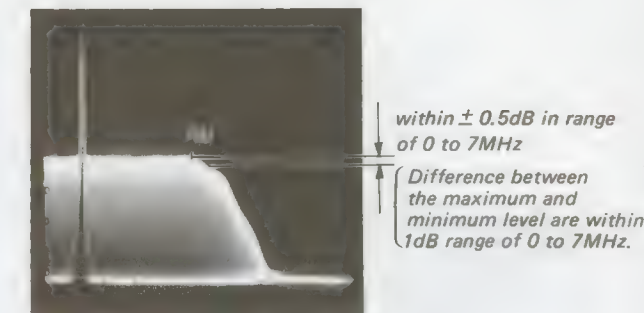

Fig. 5-97.
4. Connect the probe to the R. cathode terminal of the picture tube socket on the C board (E should be connected to E of the C board) and adjust CV1 on the BE board so that the overall frequency characteristic of the R circuit becomes flat in a range of 0 to 7 MHz. (See Fig. 5-97.)
8. Remove the probe to the G cathode terminal of the picture tube socket on the C board and turn CV2 on the BE board so that the overall frequency characteristic of the G circuit becomes flat in a range of 0 to 7 MHz. (See Fig. 5-97.)
12. Connect the probe to the B cathode terminal of the picture tube socket on the C board and adjust CV3 on the BE board so that the overall frequency characteristic of the B circuit becomes flat in a range of 0 to 7 MHz. (See Fig. 5-97.)